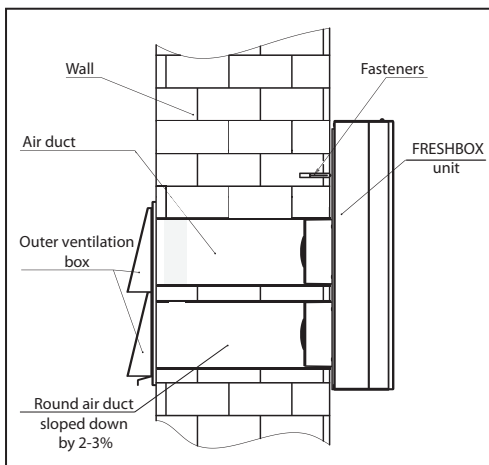

Fig. 9.
- b) connect the unit spigots to the air ducts, fig. 9;